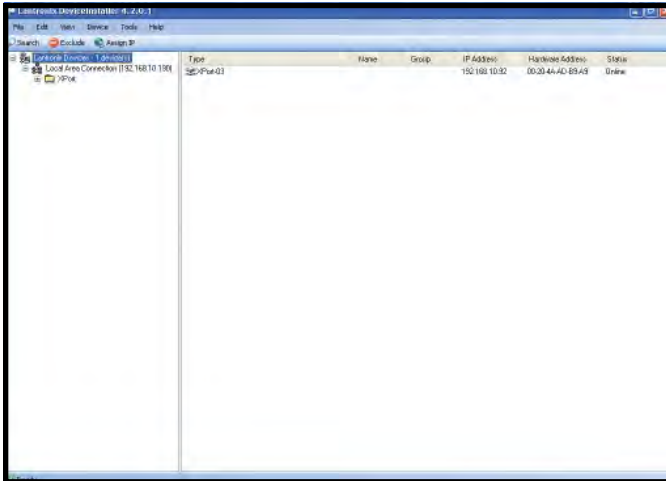

Figure 86. DeviceInstaller search results
- III. After a few moments, “WiPort b/g” should appear on the screen along with its assigned IP address and designated hardware address (see Figure 86). If it does not appear, check all connections from the Network Adapter to the Smart Clock and verify that both are powered.